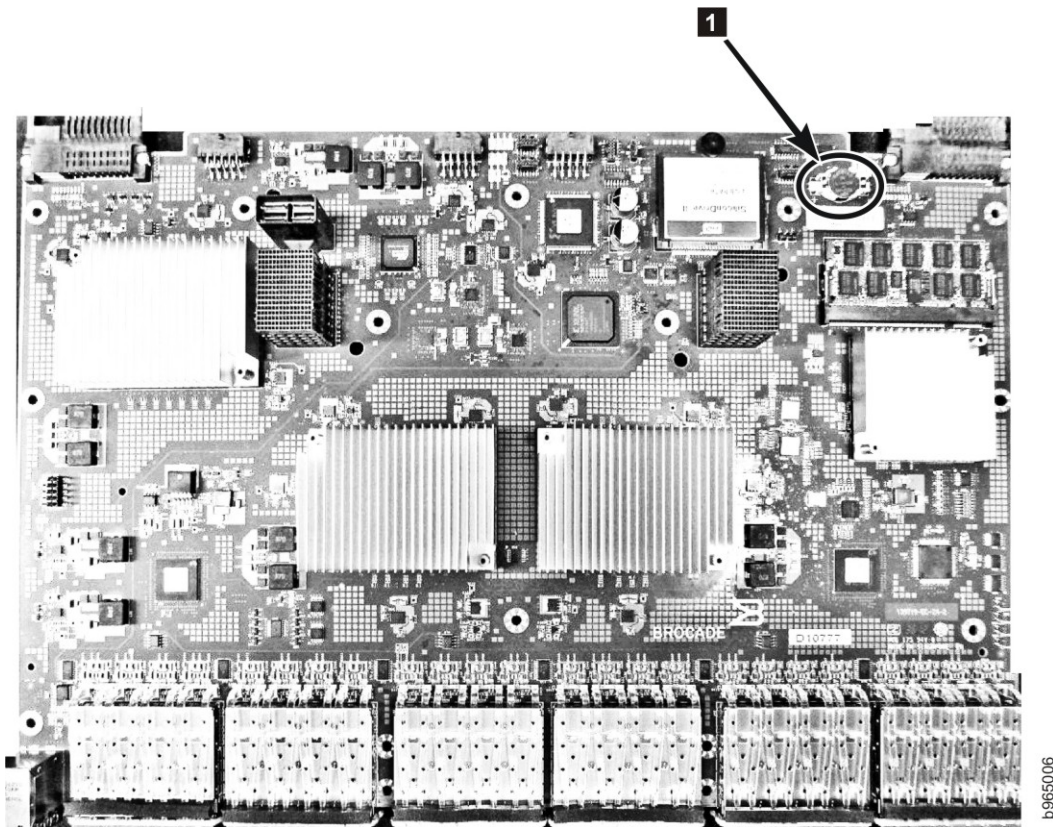

Figure 64. Location of battery holder
5. On the main circuit board, go to location **1** shown in Figure 64 and remove the BR1225 battery from the holder.